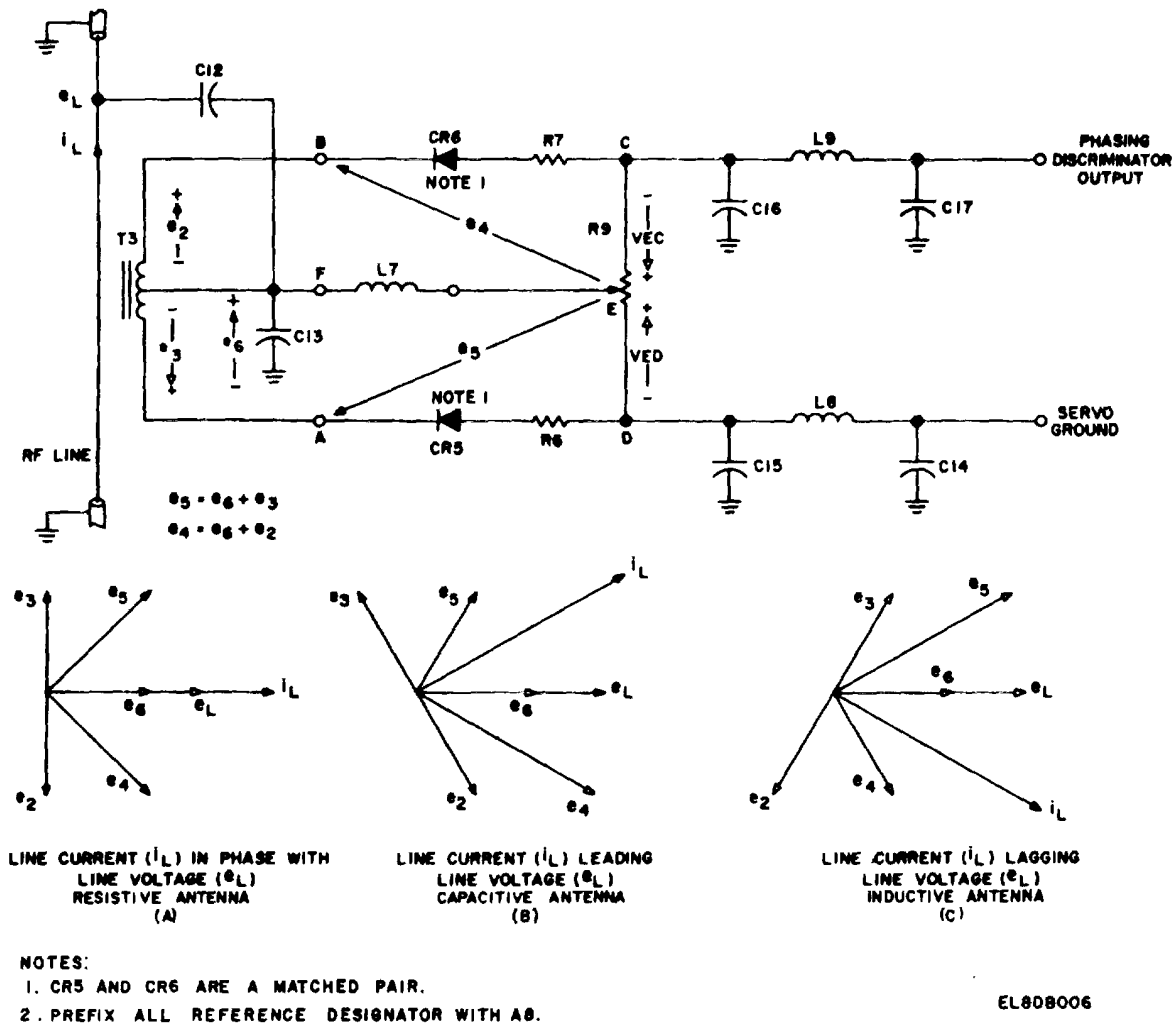

Figure 2-8. Discriminator A8, Phasing Operation, Simplified Schematic Diagram.
2-7. Discriminator A8 Phasing Theory (fig. 2-8)
c. When the antenna is resistive, line current i_L and line voltage e_L are in phase (A, fig. 2-8). The magnitude of the resultant voltage across circuit number 1 (e_4) is equal to the magnitude of the resultant voltage across number 2 (e_5), and no error voltage is developed.
d. When the antenna is capacitive, the vector addition of induced voltage e_3 and sampled voltage e_6 causes resultant voltage e_5 to increase in magnitude (B, fig. 2-8). The vector addition of induced voltage e_4 and sampled voltage e_4 causes resultant voltage e_4 to decrease in magnitude. The algebraic sum of resultant voltages e_4 and e_5 is a negative error signal output.
e. When the antenna is inductive, the vector addition of induced voltage e_2 and sampled voltage e_6 causes resultant voltage e_4 to decrease in magnitude (C, fig. 2-8). The vector addition of induced voltage e_3 and sampled voltage e_6 causes resultant voltage e_5 to increase in magnitude. The algebraic sum of resultant voltages e_4 and e_5 is a positive error signal.